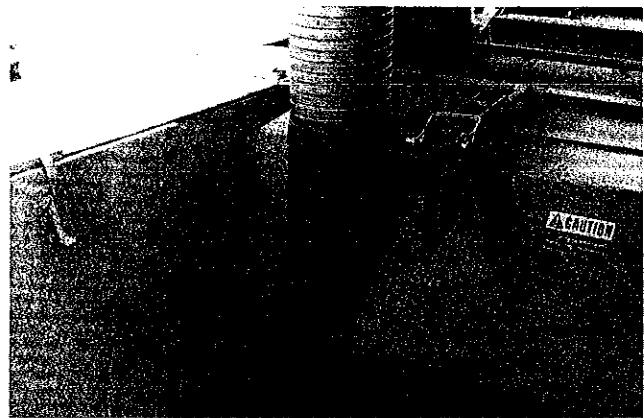

Figure 24 — Sheller Bypass Attachment
41. If sheller bypass attachment is to be used, the hammermill door must be replaced with a door and transition pipe, Item 39, page 17. The assembled corn sheller elbows and canvas boot, Items 40, 39 and 42, page 19, is removed and the 4 inch diameter flexible tube is installed. Curve the flex tubing around and install into the pipe on the hammermill door. See Figure 24.